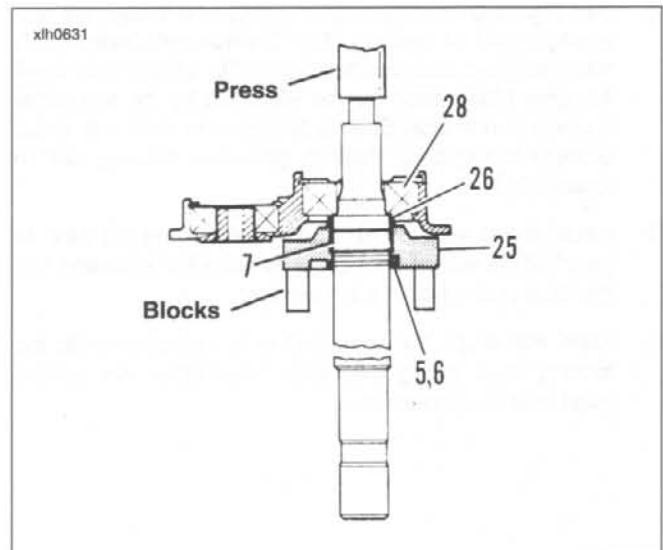

Figure 6-43.
11. See Figure 6-43. Place mainshaft and access door assembly on arbor press with support under mainshaft 4th gear (25). Press on end of shaft until mainshaft is free of access door bearing. Remove spacer (26), mainshaft 4th gear (25) and split bearing (7).
12. Remove thrust washer (6). Expand and remove remaining retaining ring (5).